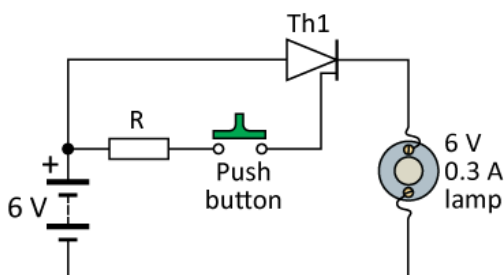

Fig. E4-4
4. For the circuit of Fig. E4-4, describe its operation and state how it can be improved.